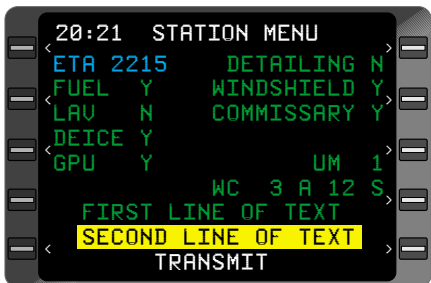

Figure 8-41
28. **ENTER** Key - DEPRESS. If the field is blank, the cursor will move to **TRANSMIT**. If there is text in the first line, the cursor will move to the second line of free text. See Figure 8-41.